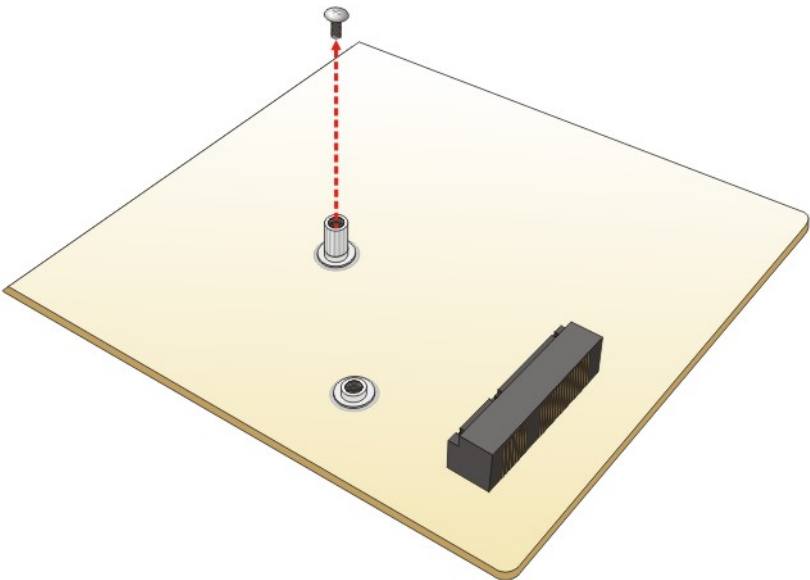

Figure 4-8: Removing the Retention Screw
- Step 2:** Remove the retention screw. Remove the retention screw as shown in **Figure 4-8**.